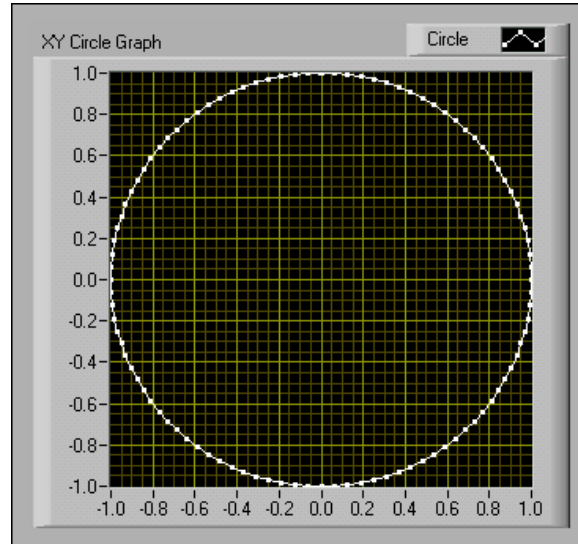

Figure 5.25
1. Open a blank VI and build the front panel shown in Figure 5.25.
- e. Change the scale labels and ranges, as shown in Figure 5.25.